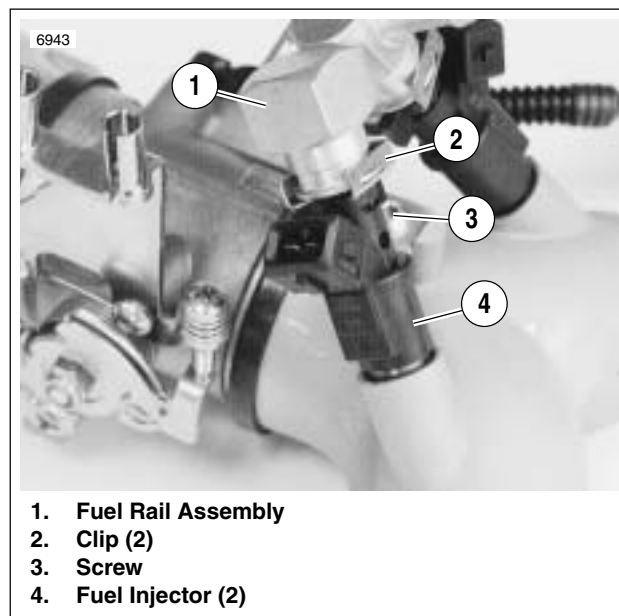

Figure 4-103. Installing Injectors
2. See Figure 4-103. Install fuel injectors.
- b. Install both injectors (4) into throttle body manifold.
- c. Press the fuel rail (1) onto the top of the injectors.
3. Snap the injector clips (2) over the flange on the fuel rail outlet and into the top groove in the injector.